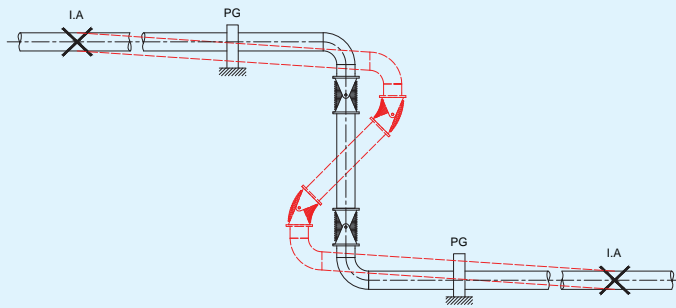

Figure 1.6
Figure 1.1 typifies good practise in the use of a single Expansion Joint to absorb axial pipe line expansion. Note the use of one Expansion Joint between two main anchors (M.A), the nearness of the Expansion Joint to an anchor, the closeness of the first alignment guide (G1), the spacing between the first alignment guide and the second alignment guide (G2), and the spacing of intermediate guides (G) along the balance of the line. See Figure 1.6
Figure 1.6 illustrates the use of a two-hinge system to absorb the major thermal expansions in a single-plane "Z" bend. Since the pressure thrust is absorbed by the hinges on the Expansion Joints, only intermediate anchors are required at each end of the piping system.